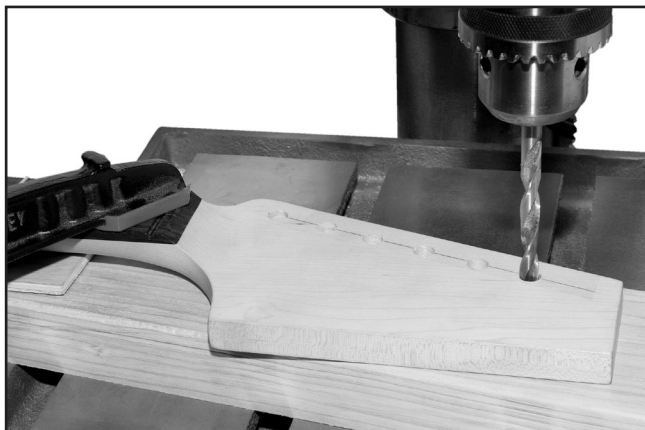

Figure 10. Drilling the pegholes.
7. Using a $\frac{5}{16}$ " bit, drill holes through the top of the headstock for the tuner shafts, as shown in **Figure 10**.